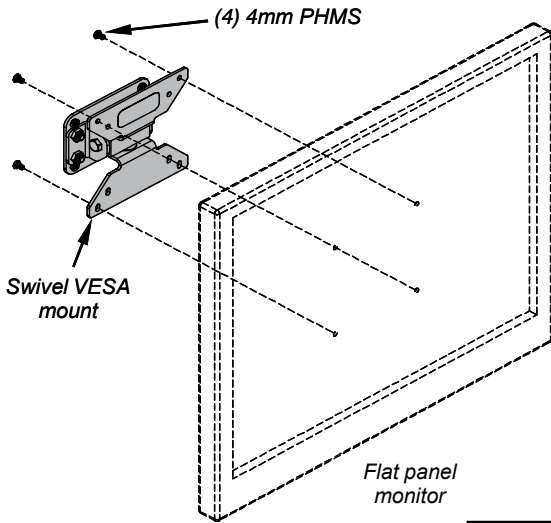

Figure 3A
- B. Attach the Swivel VESA mount to your flat panel monitor with (4) 4mm PHM screws. **Figure 3A.**